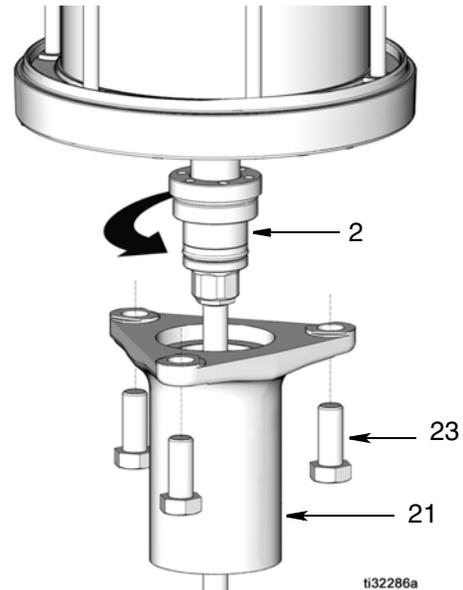

FIG. 11
- Unscrew bolts (23) that connect pump base (21) to the air motor (FIG. 11).
- Remove pump base (21) from air motor and unscrew packing gland (2) (FIG. 11).